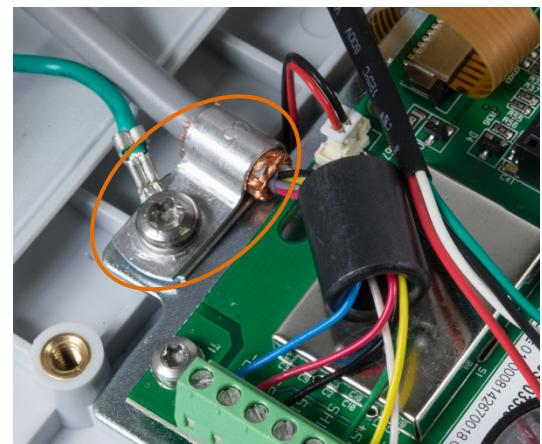

Figure 2-27: Analog Load Cell Cable Ferrite Installation and Chassis Grounding, IND231
1. The load cell cable enters the housing through the cable gland indicated in Figure 2-27.
4. The grounding clip supplied with the terminal is used to connect the exposed shield (Figure 2-26) to the metal mounting plate using the enclosure hinge wire attachment screw, as shown in Figure 2-27.